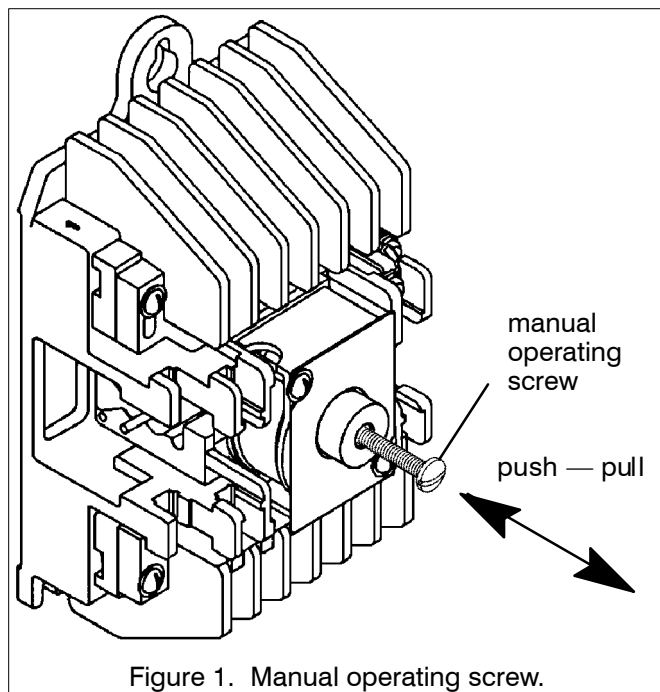

Figure 1. Manual operating screw.
Insert the plastic screw into the center of the coil and carefully turn it clockwise until the threads engage the cam/core. See Figure 1.
6. Manually operate the switch. Use the plastic screw to open and close the switch. See Figure 1. The action should be smooth, without any binding. If not, recheck alignment of coil assembly. *Remove the plastic screw.*
5. Manually operate the switch to check operation of auxiliary contacts(s). See Figure 1.
Use the plastic screw to open and close the switch contacts. See Figure 1. Observe the black buttons in the contact block(s); the contacts are open when the buttons are out. The action should be smooth, without binding. If not, recheck alignment of contact block and actuator. *Remove the plastic screw.*
7. Manually operate the switch with the plastic operating screw. See Figure 1 on page 1. Then remove the screw.
See Control Contact Replacement on this pages 2-4. When the miniature switches are removed, pull out the lever and install the replacement lever (from the kit). The cam/core must be in the outward (up) position to do this. Use the manual operating screw. See Figure 1. *Remove the screw.*